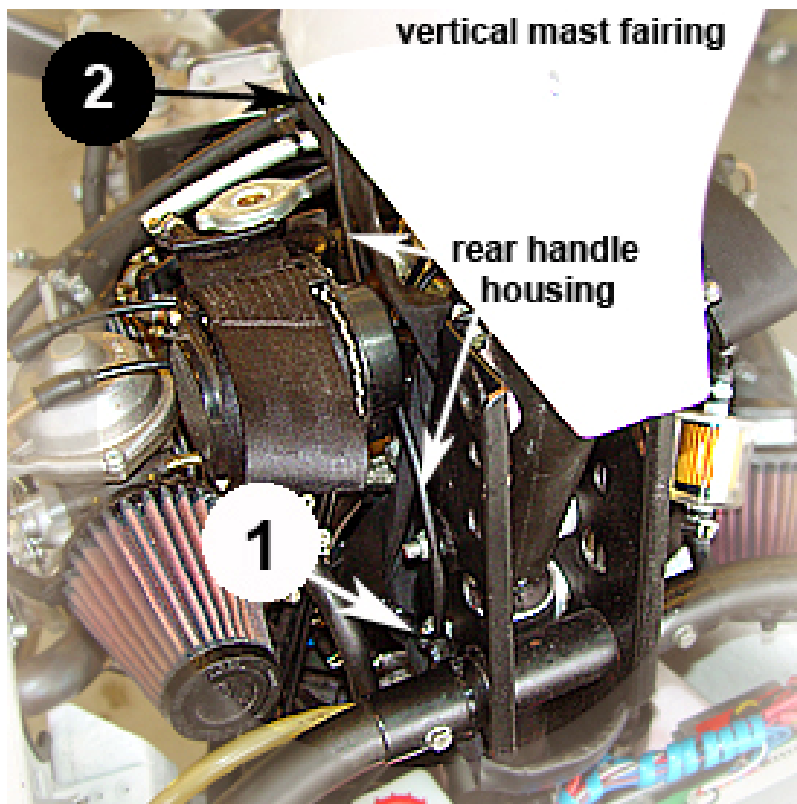

Figure 4-28
Figure 4-28 shows the correct shape of the Rear Handle Housing between points ❶ and ❷ when the vertical mast is in the UP position.